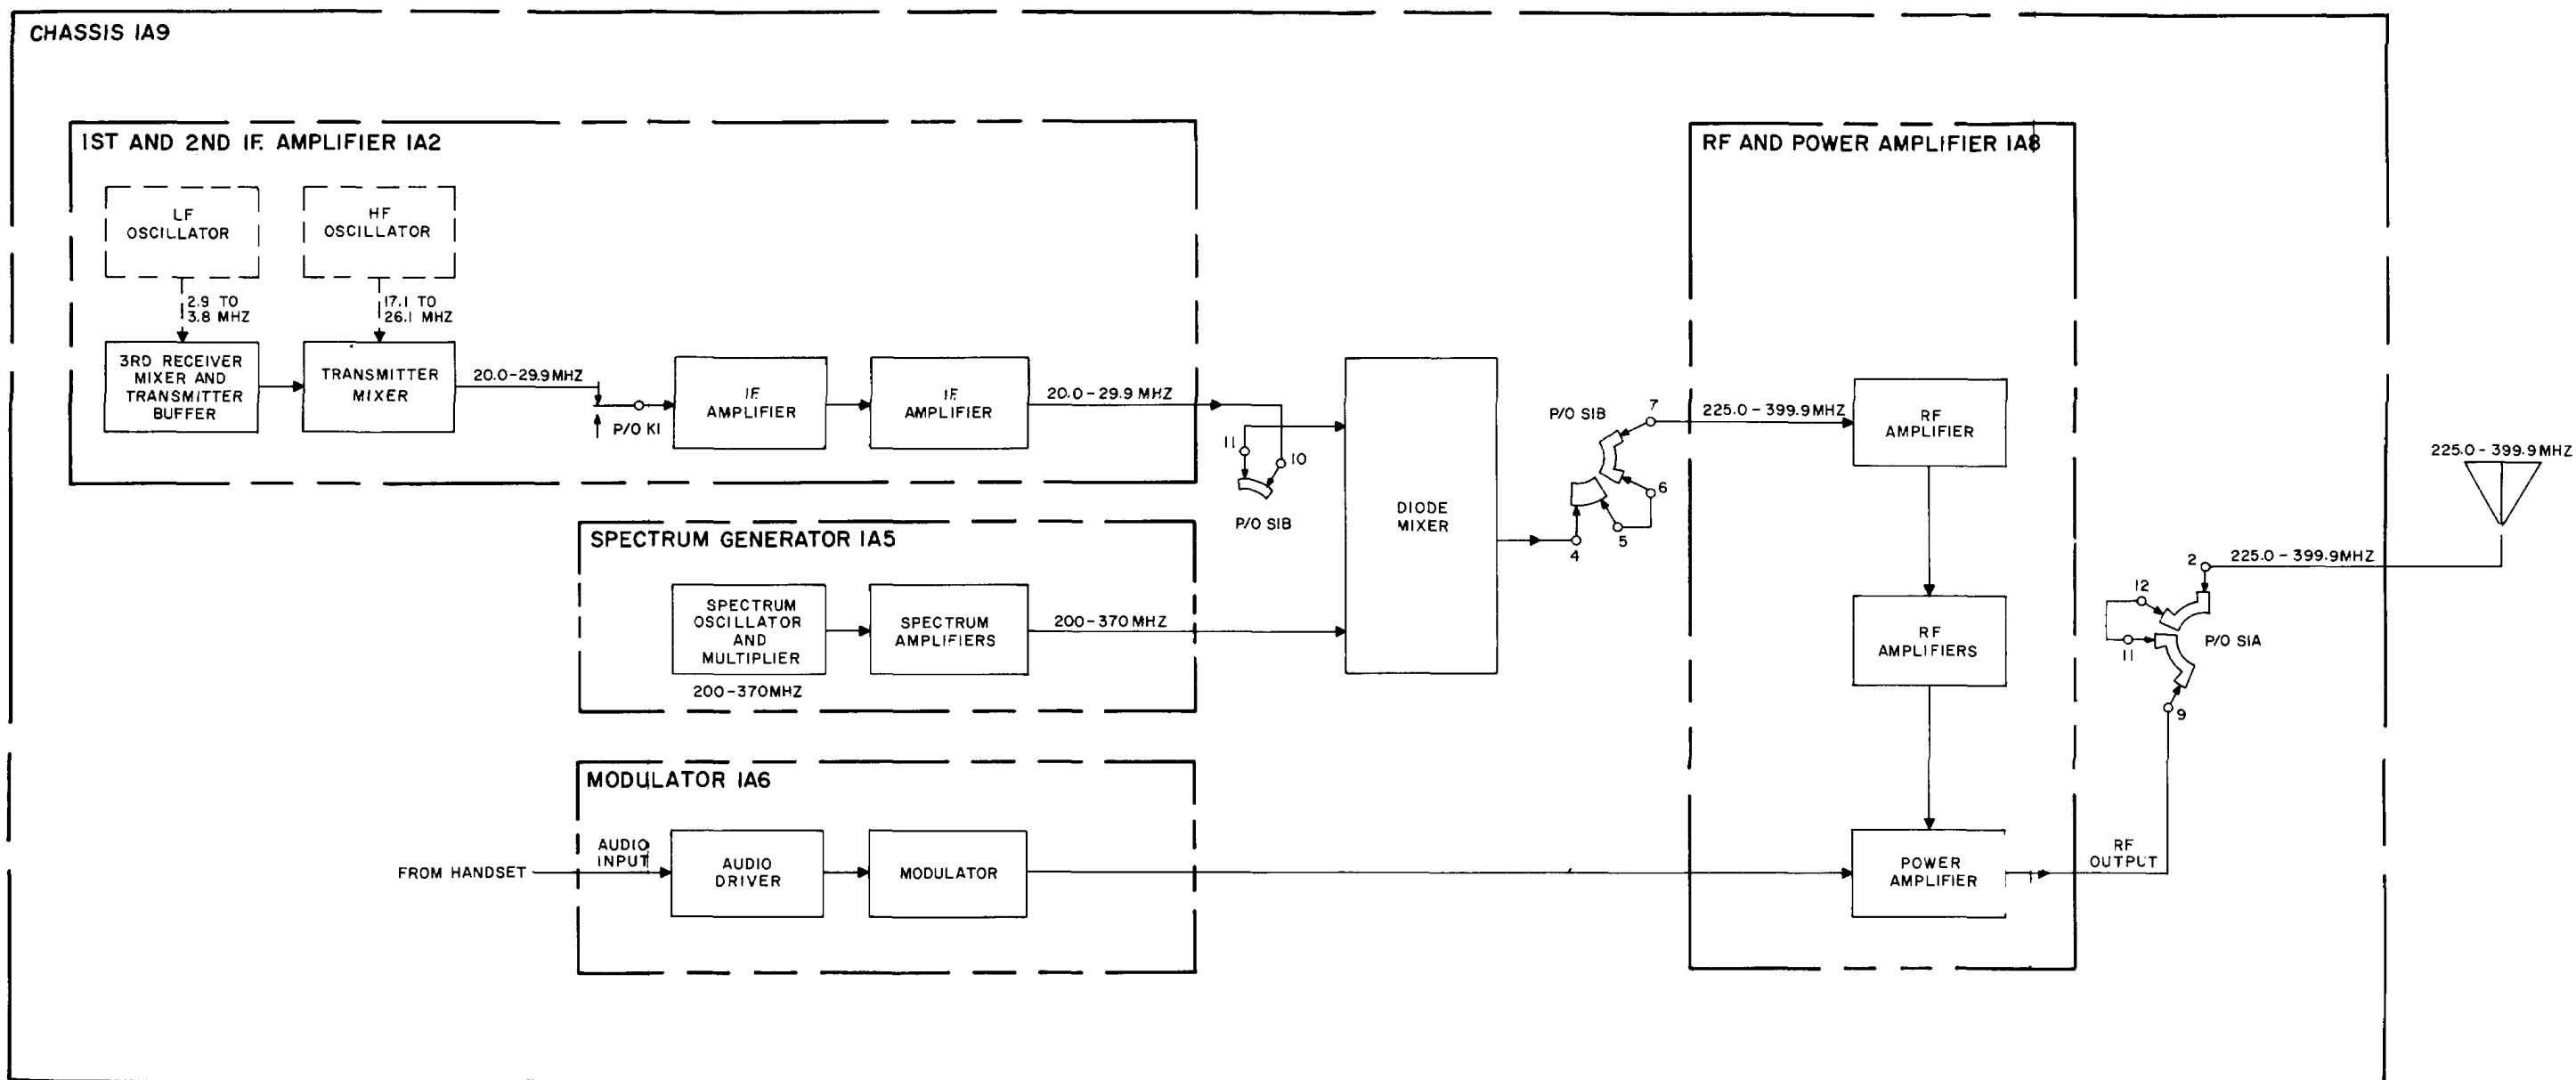

Figure 4-5. Radio Receiver-Transmitter RT-695A/PRC-41, Transmitter Functional Section Block Diagram
a. DESCRIPTION. (Refer to figure 4-5.) - The transmitter functional section is composed of circuits of the modulator, rf and power amplifier, and 1st and 2nd if amplifier modules along with switching and interwiring of the main chassis of RT-695A/PRC-41.
(1) FUNCTIONAL DESCRIPTION. - The transmitter functional section is composed of circuits of the modulator, rf and power amplifier, and 1st and 2nd if amplifier modules along with switching and interwiring of the main chassis. Discussion of circuits of the transmitter functional section is presented by module in order of signal flow. See transmitter functional section block diagram (figure 4-5) as an aid in understanding theory of operation of the transmitter functional section.